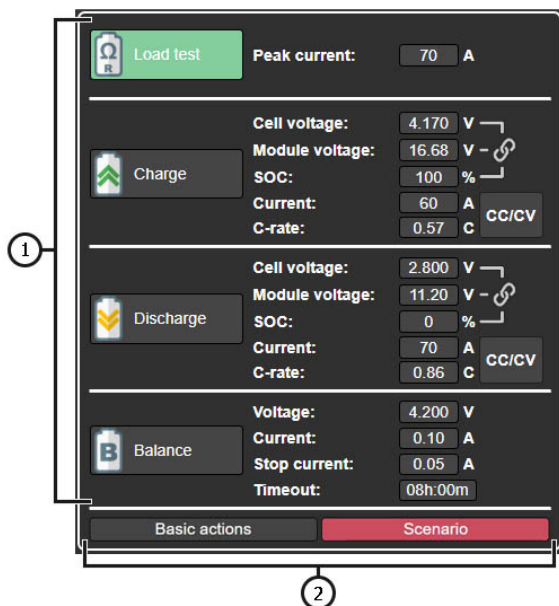

Figure 6.2
- 4 – Tester Mode selection and custom battery test parameter configuration panel (refer to explanations in fig. 6.2)
Block of tester operation mode selection and individual setting of battery test parameters (see Fig. 6.2) includes the following: